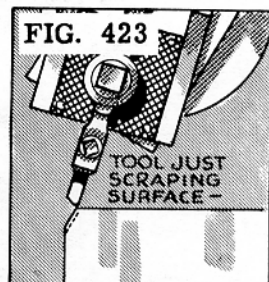

FIG. 423
6. Raise the tool and move the work horizontally until the tool just touches the edge of the work (Fig. 423). This will give a starting position.